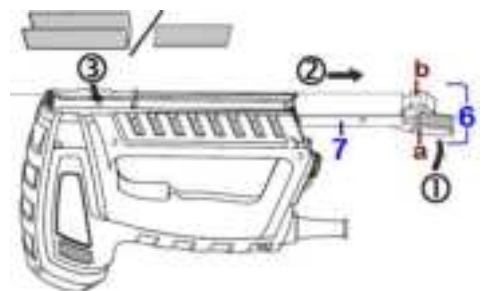

Fig.2
③ insert the fasteners as illustrated in Fig.2, respecting the loading capacity of the magazine (see section II-characteristics).